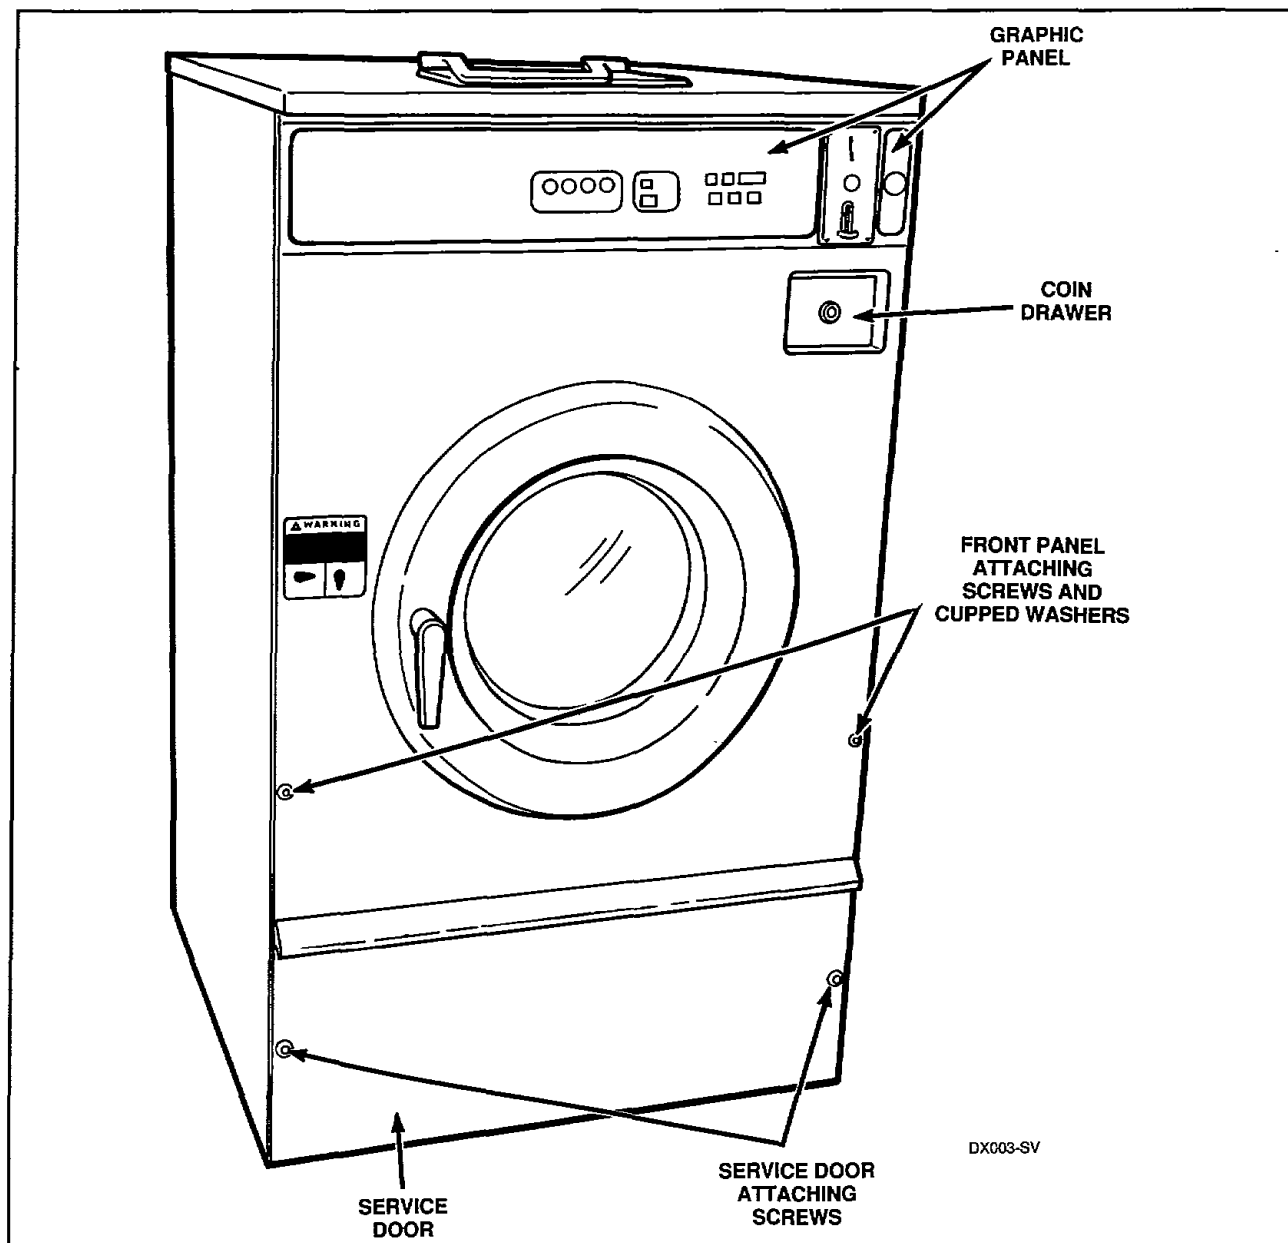

Figure 3
Remove the two screws and cupped washers holding the service door to the washer side panels and remove door, *Figure 3*.
3. GRAPHIC PANEL OVERLAY (*Figure 3*)
- Remove two screws and cupped washers holding lower front access panel to washer side panels and remove panel, *Figure 3*.
- e. Remove two screws and cupped washers holding service door to the washer side panels and remove door, *Figure 3*.
- f. Remove two screws and cupped washers holding front panel to side panels, *Figure 3*.
- g. Remove two screws and cupped washers holding service door to washer side panels and remove door, *Figure 3*.
- a. Remove two screws and cupped washers holding the service door to the washer side panels and remove the door, *Figure 3*.